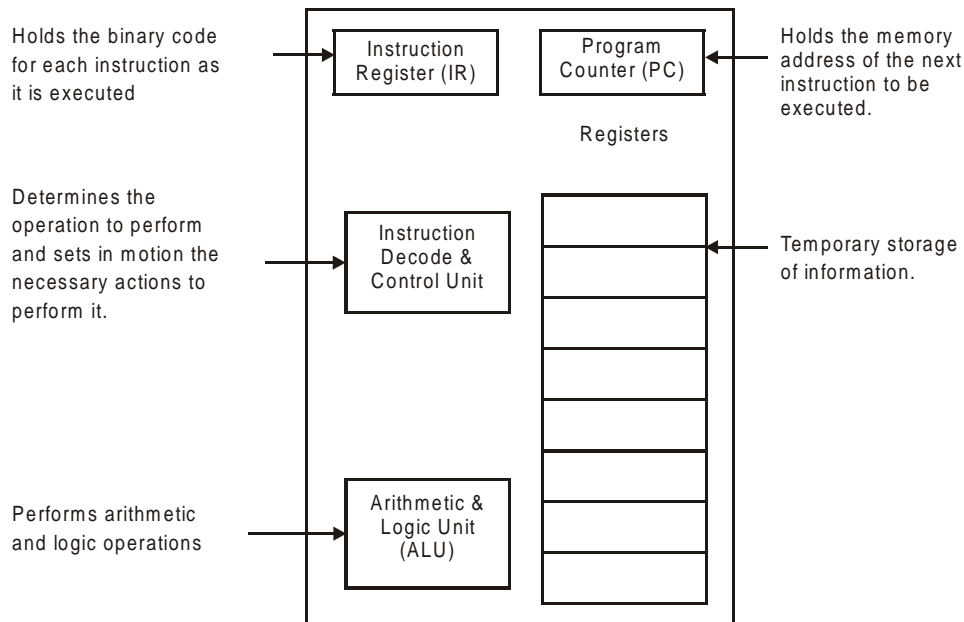

Figure 1.1 General block diagram of CPU (Microprocessor)
A CPU built into a single VLSI chip is called microprocessor. The simplified block diagram of the CPU is shown in the Fig. 1.1. It contains arithmetic and logic unit (ALU), Instruction decode and control unit, Instruction register, Program counter (PC), clock circuit (internal or external), reset circuit (internal or external) and registers. For example, Intel 8085 is 8-bit microprocessor and Intel 8086/8088 is 16-bit microprocessor.